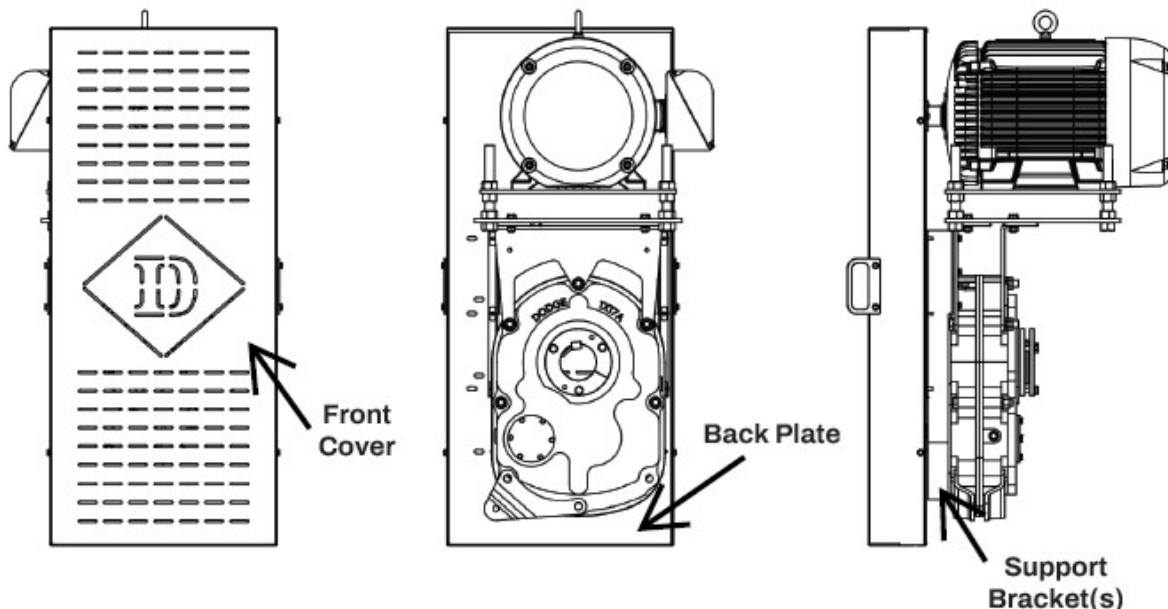

Figure 1 - Enhanced Belt Guard General Layout
- Figure 1 shows the general layout of components that will come in each enhanced belt guard kit.